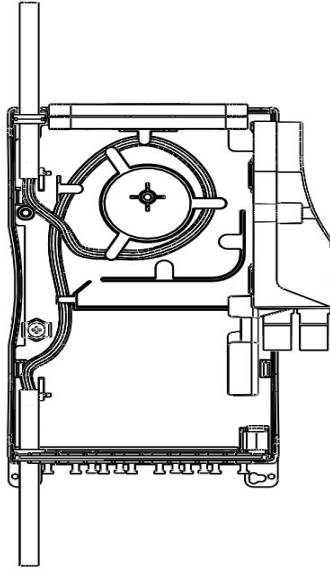

Fig. 19
4.2.1. The cables should come straight at the bottom and top (Fig. 19).